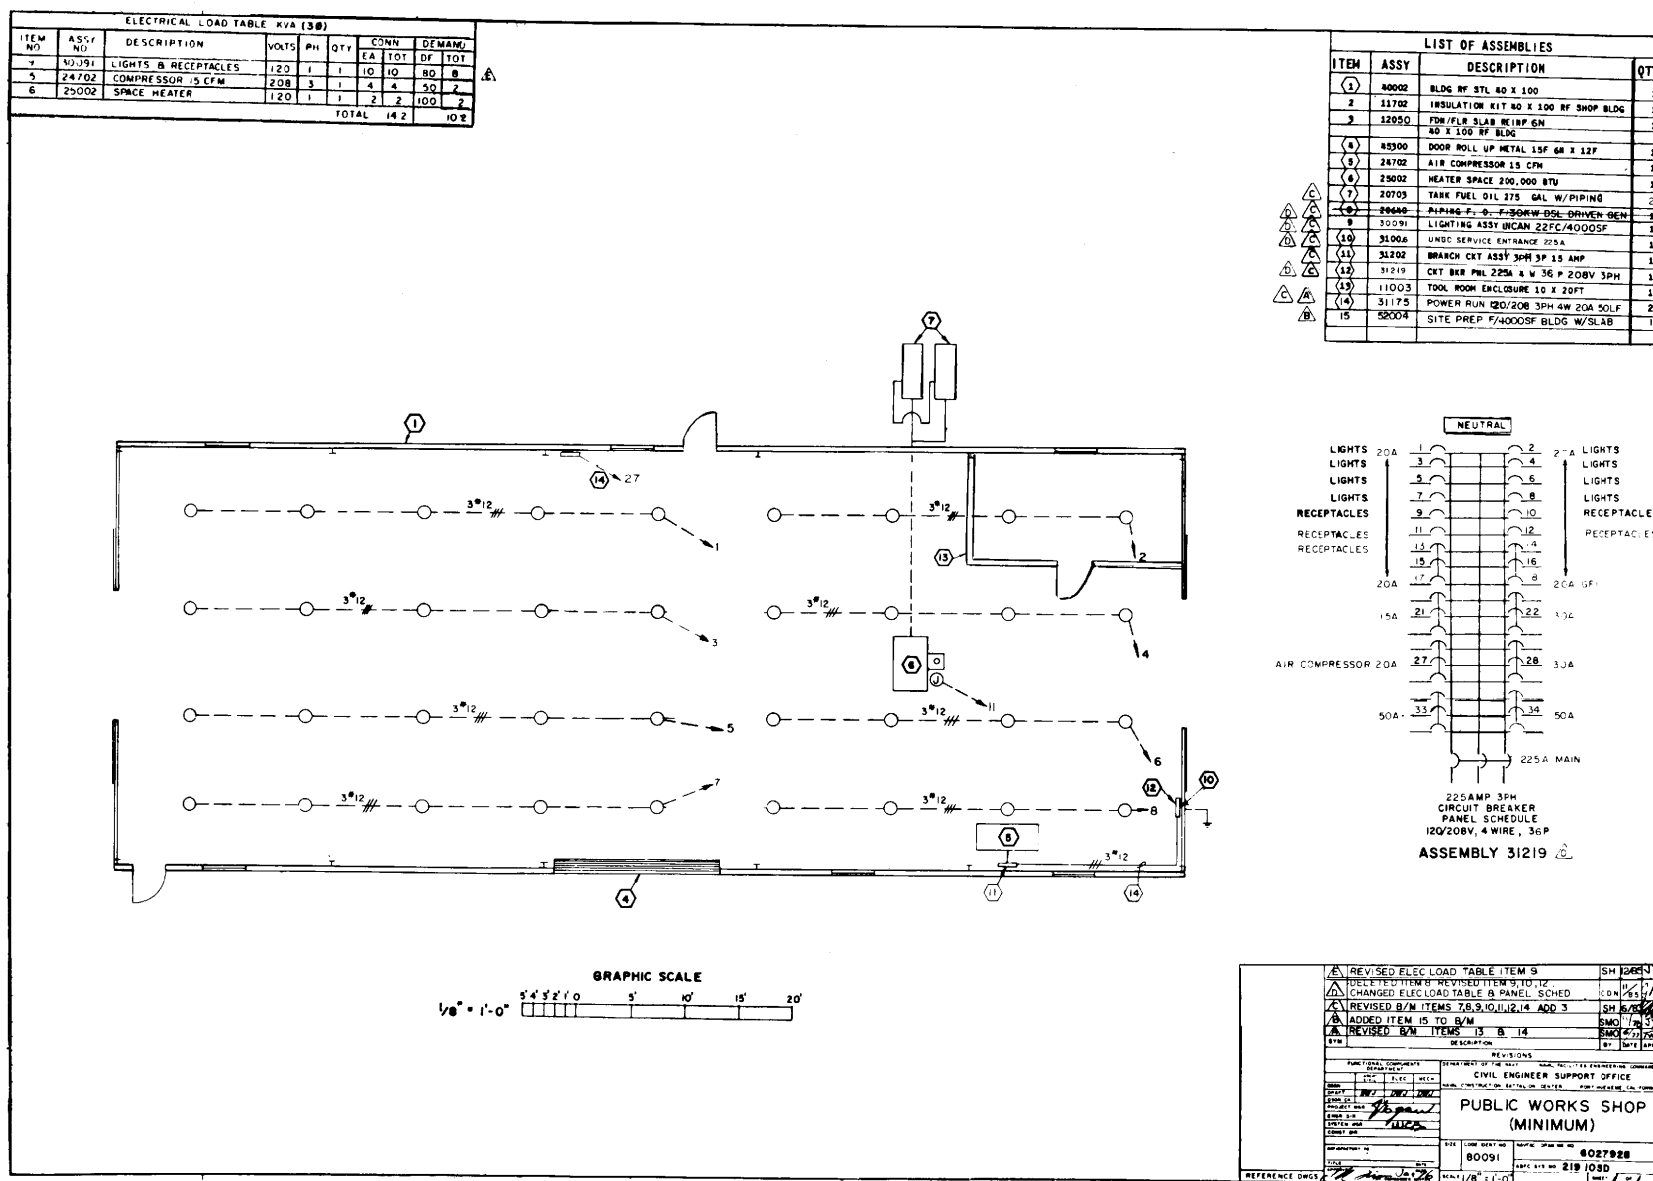

Figure 9-25.—Example of an interior electrical plan.
Figure 9-25 shows an electrical layout of a typical public works shop. Once again, note that the electrical information is superimposed on an outline taken from an architectural floor plan. In addition to the list of assemblies and electrical load table, a wiring diagram and panel schedule of a 225-A, three-phase circuit breaker is drawn. The underground service entrance (item 10 on the list of assemblies) delivers a four-wire, 120/208-V power into the building. Lighting circuits use a three-wire, No. 12 AWG (TW).